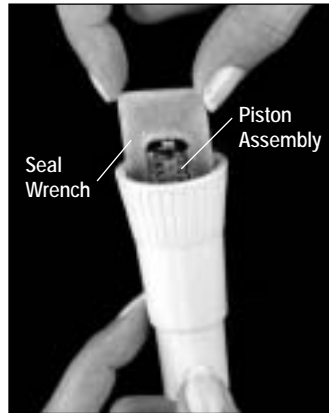

FIGURE 10-3
2. Place the wrench in the slots in the piston assembly. Turn the wrench counter-clockwise to remove the piston assembly, as shown in Figure 10-3.